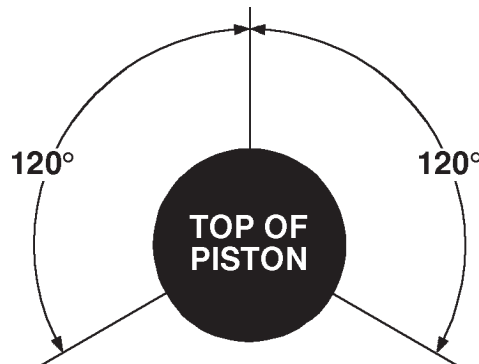

FIGURE 1. PISTON RING ORIENTATION
- XV. Rotate the rings so that the gaps of the three rings are 120° apart. See Fig. 1. Lightly lubricate the inside of the cylinder. Rotate the crankshaft so that a piston is at the top of the stroke. Compress the rings with a ring compressor, and slide the cylinder over the piston. Repeat for the other piston.